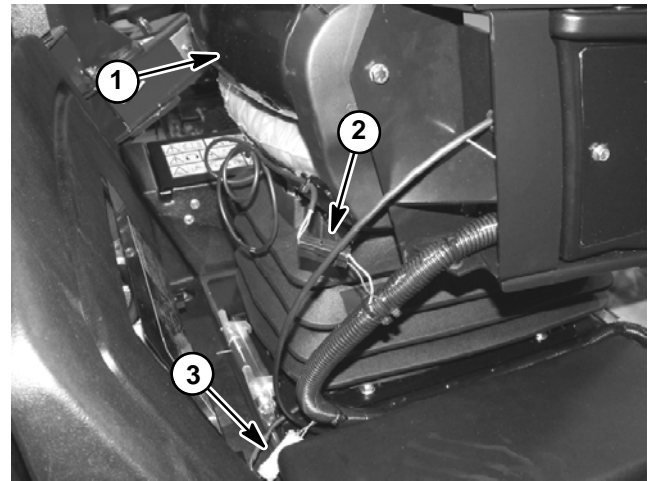
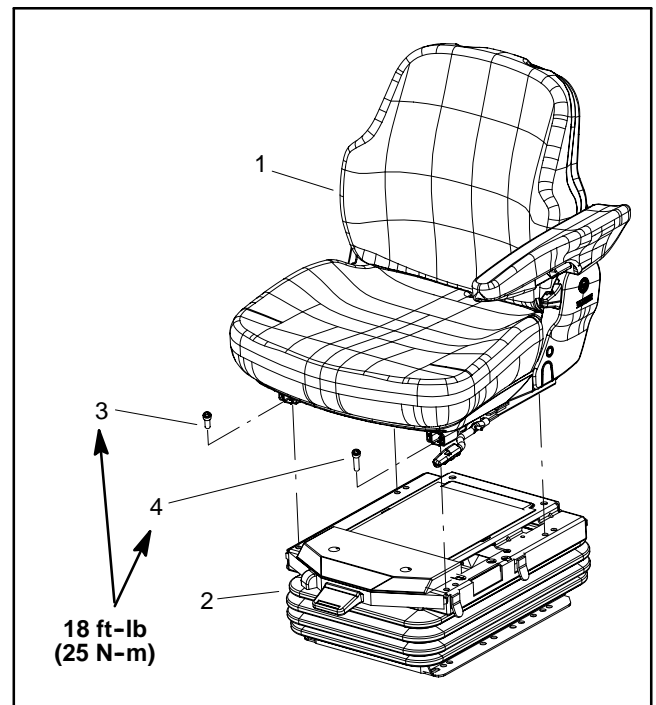

Figure 16
Figure 17
2. Disconnect seat electrical connector from machine wire harness (Fig. 16).
4. Remove flange nut (item 29) and carriage screw (item 32) that secure support bracket (item 30) to support channel (item 31).
5. Remove cap screw (item 37) that secures console arm support (item 35) to coupler nut (item 38).
6. Remove cap screw (item 33), flat washers (item 20), spacer (item 36) and seat belt latch (item 39) from seat and console arm support (item 35).
8. Remove four (4) torx head screws that secure seat to seat suspension (Fig. 17). Note that the screw near the seat adjustment handle is longer than the other three (3) screws.
2. Secure seat to seat suspension with four (4) torx head screws (Fig. 17). Make sure that longer screw is positioned near the seat adjustment handle. Torque screws **18 ft-lb (25 N-m)**.
A. Secure support bracket (item 30) and support channel (item 31) with flange nut (item 29) and carriage screw (item 32).
B. Secure console arm support (item 35) to coupler nut (item 38) with cap screw (item 37).
C. Place flat washer (item 20), seat belt latch (item 39) and spacer (item 36) between seat and console arm support (item 35). Secure with cap screw (item 33) and second flat washer (item 20).
4. Connect seat electrical connector to machine wire harness (Fig. 16).